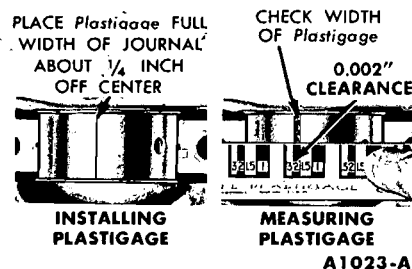

FIG. 62—Installing and Measuring Plastigage—Engine on Work Stand
10. Check the clearance of each main bearing. Place a piece of Plastigage on the crankshaft journal the full width of the journal and about 1/4 inch off center (Fig. 62). Follow steps 11 thru 13 under Main Bearing Replacement.
8. Check the clearance of each main bearing following steps 10 thru 13 under Main Bearing Replacement. In step 10, place the Plastigage on the crankshaft journal instead of in the bearing cap (Fig. 62).